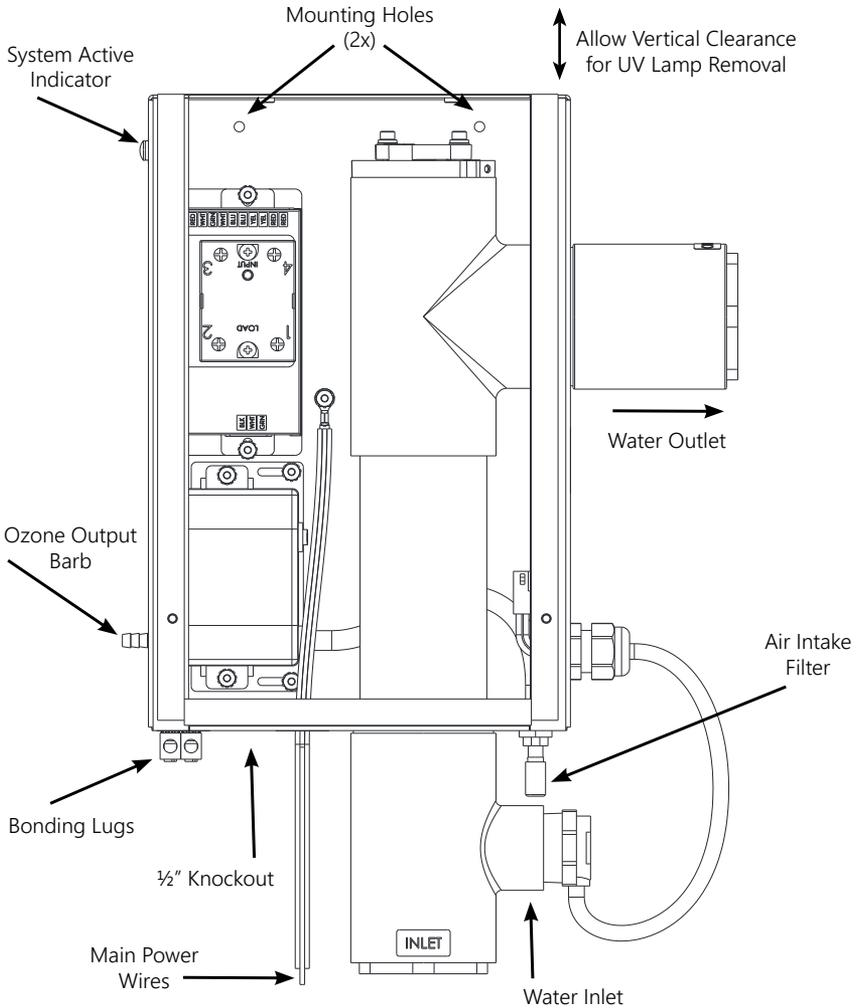

Figure 1: Mounting Location & Notations
- Install at least 5 feet (1.5 meters) from wall of pool. Install ozone generator no less than one (1) foot above maximum water level to prevent water from contacting electrical equipment. Install in accordance with the installation instructions.
- The DEL AOP-S must be installed in an outdoor location, or indoors in a forced air ventilated room, and installed so that the orientation is exactly as shown in **Figure 1**. Install to provide water drainage of generator to protect electrical components.
Mount in a clean, protected area out of direct sunlight. The unit must be installed in an outdoor location, or indoors in a forced air ventilated room, and installed so that the orientation is exactly as shown in Figure 1. Locate out of reach of sprinklers or drainage spouts. Mount in the orientation shown in Figure 1, using the two mounting holes provided inside the enclosure. Allow sufficient clearance in front for internal access, and above for service of the UV lamp and quartz tube (13 inches). The DEL AOP-S should be installed at least one (1) foot above the maximum water level. See Section 2C-3 Check Valve Assembly, for plumbing instructions based on mounting location.
2. Refer to Figure 1 to mark the locations for the two mounting screws.